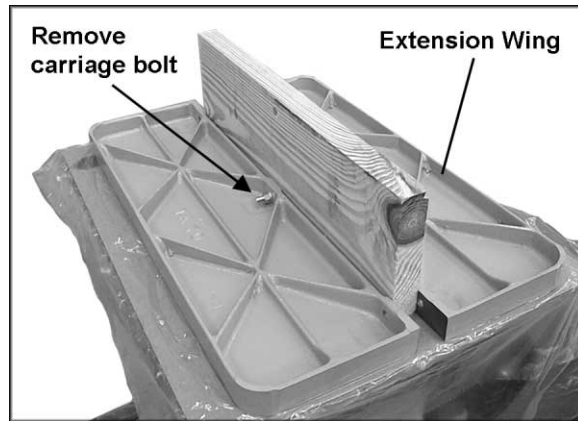

Figure 1
2. Use a 9/16" wrench to remove the carriage bolt, hex nut and washer holding the extension wings together (Figure 1). Set extension wings aside for later installation.